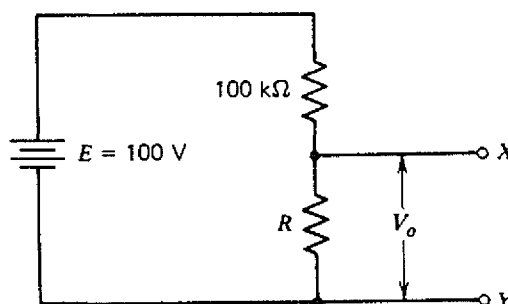

FIGURE 2-37 Circuit for Problem 2-12.
- 2-12** In the circuit of Fig. 2-37, voltmeter A having a sensitivity of $5 \text{ k}\Omega/\text{V}$ is connected to points X and Y and indicates 15 V on its 30-V range. Voltmeter B is then connected to points X and Y and indicates 16.13 V on its 50-V range. Find the sensitivity of voltmeter B.